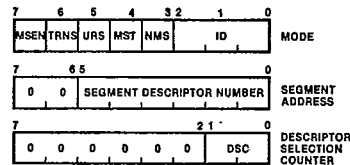

Figure 7. Control Registers
**Control Registers.** The three user-accessible 8-bit control registers in the MMU direct the functioning of the MMU (Figure 7). The Mode Register provides a sophisticated method for selectively enabling MMUs in multiple-MMU configurations. The Segment Address Register (SAR) selects a particular Segment Descriptor Register to be accessed during a control operation. The Descriptor Selection Counter Register points to a byte within the Segment Descriptor Register to be accessed during a control operation.